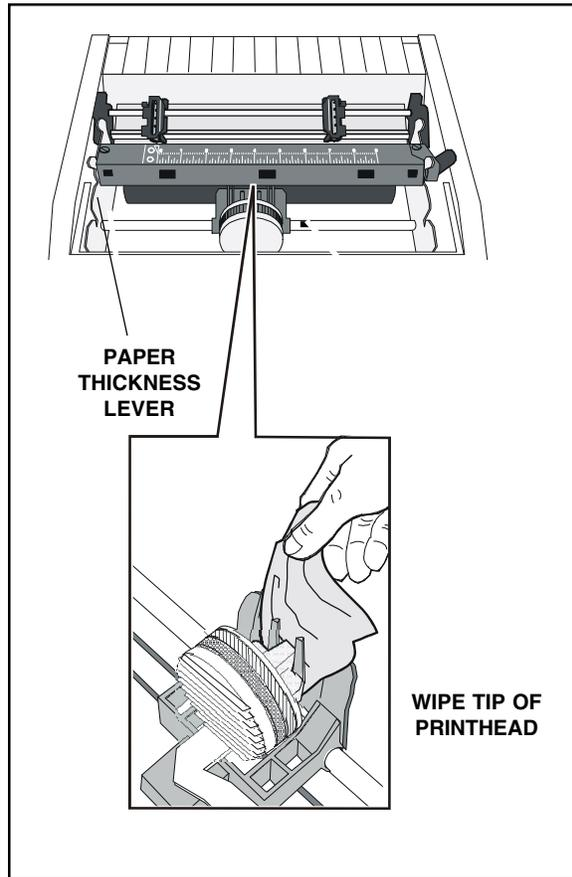

Figure 5-3. Cleaning the Printhead Wires
4. Using a soft tissue moistened with pure silicone lubricant, gently wipe the tip of the printhead to remove any ink build-up, as shown in figure 5-3.